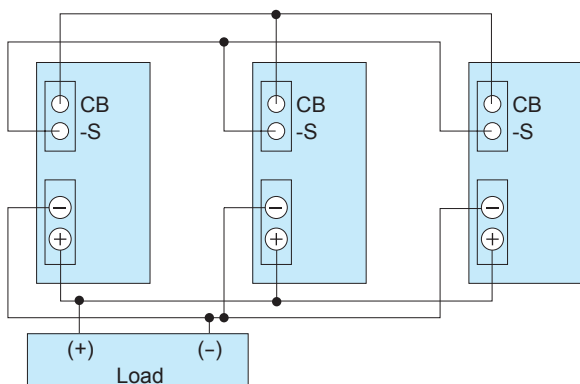

Fig.5.13 Parallel operation condition
- ① (Before wiring) set the output voltage of each unit to the desired value. The output voltage difference between the units must be less than 0.1V or 1% of the rated output voltage, whichever is smaller.
- ② Wire the power supplies as shown in Fig. 5.13. Make sure the output wires of the units connected in parallel are of the same length and the same type.
- ③ Make sure the total output current does not exceed the value determined by the following formula: